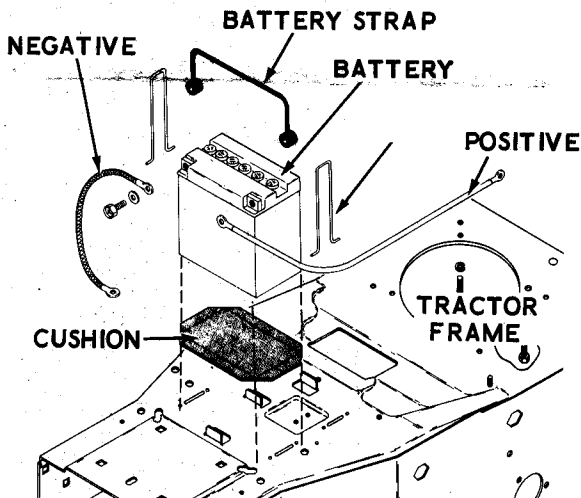

Figure 6
a. Remove battery from unit as shown in Figure 6. Clip off the sealed end of the vent tube.
g. Install battery and locate vent tube in retainer clip. See Figure 6.